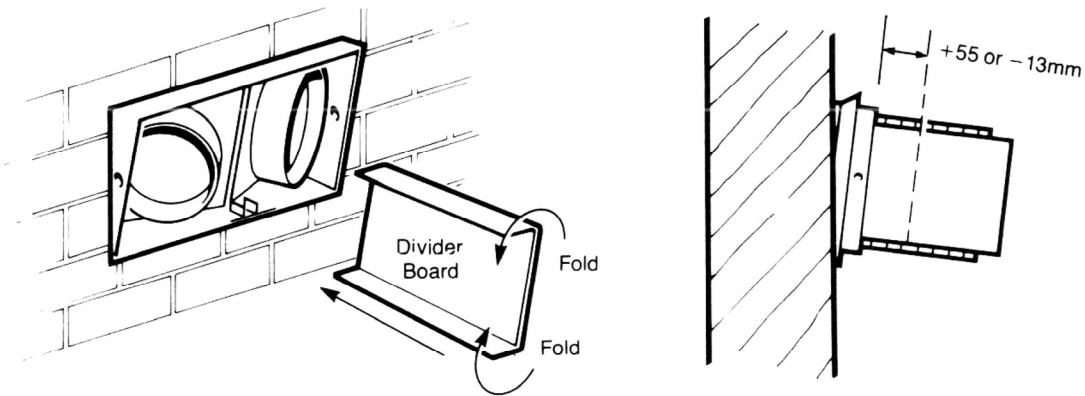

Fig. 5
14. Working from outside, position the divider board in the channel between the fan housings by folding the edges down. Cut the board such that it extends beyond the end of the outer case by 55mm for the HR500 type and falls short of the end of the outer case by 13mm for the HR500X type (see Fig.5). Replace the outer grille and retain it with the screw and washer assemblies previously removed. Before replacing and fixing the outer shuttered grille on the HR500X type pass the cable from the grille through the hole with a grommet in the right hand end face of the inner case.